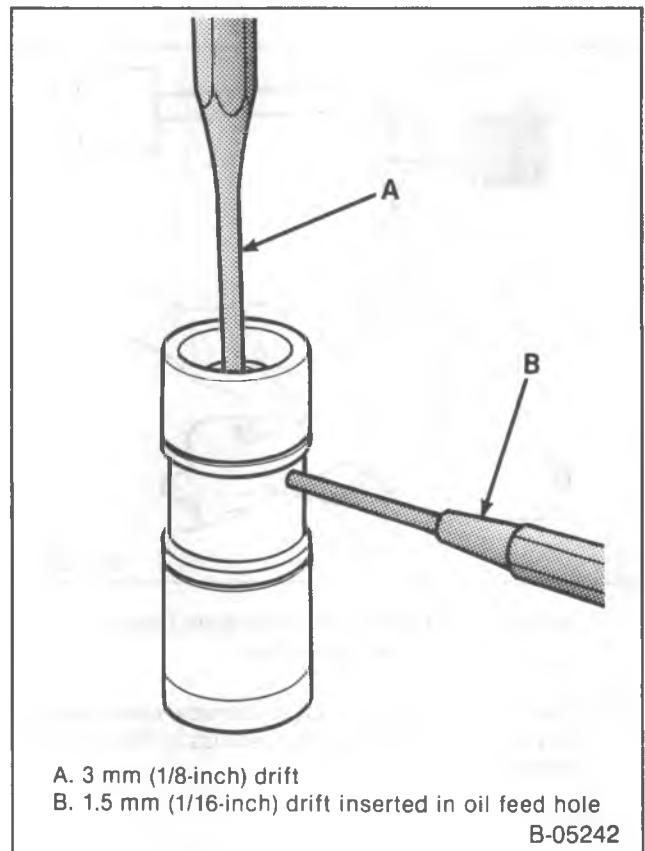

Figure 28—Assembling the Hydraulic Lifter (Typical)
- Insert a 1.5 mm ($\frac{1}{16}$ -inch) drift through both oil holes to hold the plunger down against the plunger spring tension (figure 28).
6. Metering valve (227) and pushrod seat (228).
- Push down on the pushrod seat (228), using a pushrod. Remove the 1.5 mm ($\frac{1}{16}$ -inch) drift.